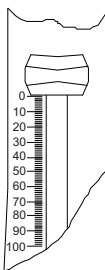

Fig. 5 Bottom of locking/filling lever levelled with zero mark
7. Push the dispensing lever, until the bottom of the locking/filling lever is levelled with the zero mark on the titration scale (see Fig. 5).